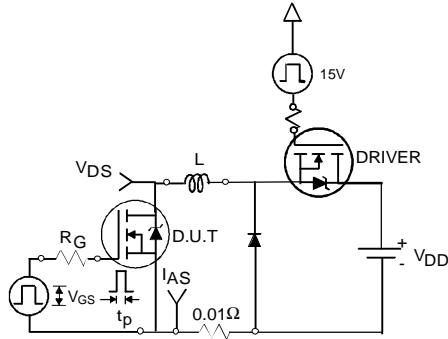

Fig 12a. Unclamped Inductive Test Circuit
- ② Starting T_J = 25°C, L = 0.38mH, R_G = 25Ω, I_{AS} = 29A. (See Figure 12a)
- ③ I_{SD} ≤ 29A, di/dt ≤ 420A/μs, V_{DD} ≤ V_{(BR)DSS}, T_J ≤ 150°C
- ④ Pulse width ≤ 300μs; duty cycle ≤ 2%.
- ⑤ C_{oss eff.} is a fixed capacitance that gives the same charging time as C_{oss} while V_{DS} is rising from 0 to 80% V_{DS}
- ⑥ Calculated continuous current based on maximum allowable junction temperature. Package limitation current is 30A.